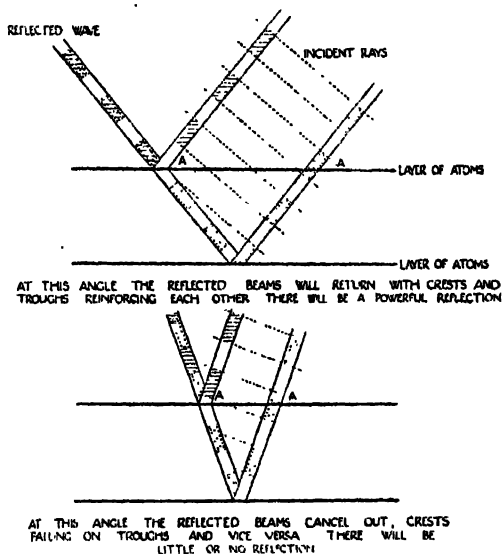

FIG. 336.—Showing that a crystal, consisting of layers of atoms, will reflect X-rays at certain angles, but not at others.
Fig. 336 shows that only for certain values of the angle (A) at which the X-rays strike the crystal will a powerful reflection take place: it is not difficult to see that knowing the wavelength and the angles at which the powerful reflections appear the distances between the layers of atoms can be worked out.